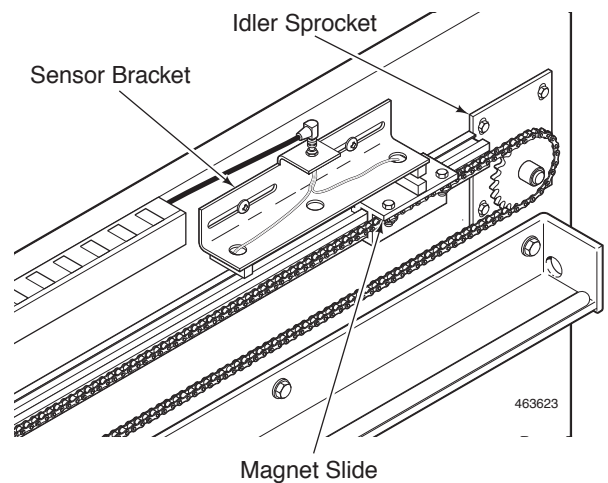

Figure 27
1. Door travel limits are adjusted by sliding the Open and Close Sensor Brackets. One is located near the motor, the other near the idler sprocket (double idler sprocket on bi-parting doors). Lights on the Control Panel show sensor activation as the Magnet Slide passes a Sensor Bracket. If adjustment is necessary, proceed as follows: See Figure 27.